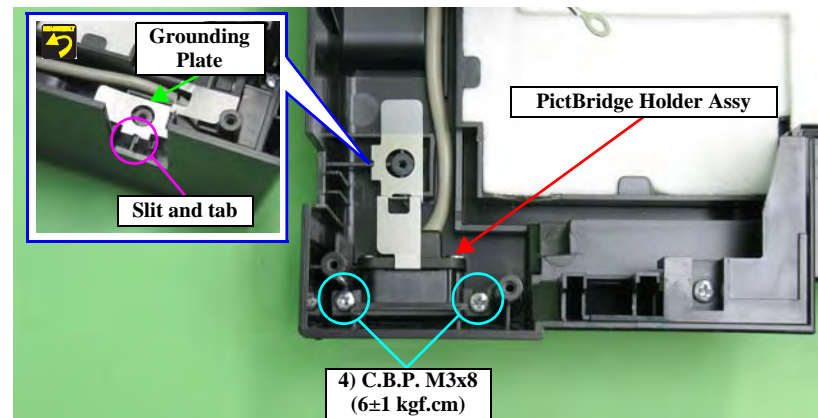

Figure 4-104. Removing the PictBridge Holder Assy
- Match the positioning slit of the Grounding Plate with the tab of the Lower Housing as shown in Figure 4-104